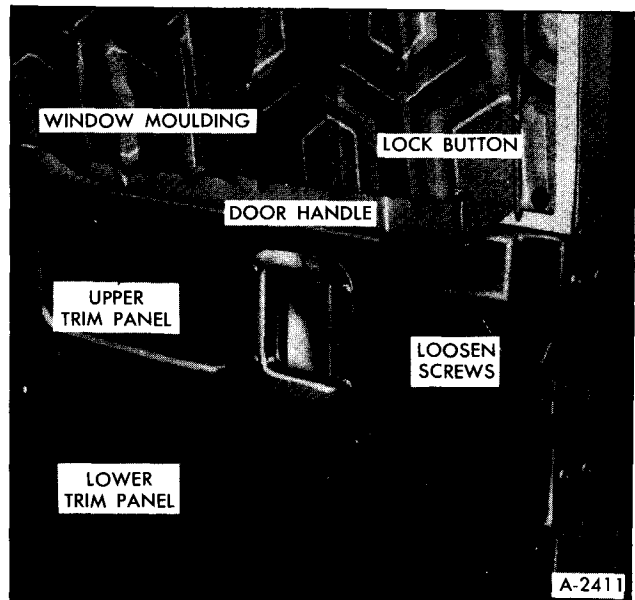

Figure 32—Removing Trim Panels
4. Remove upper trim panel and inner handle assembly by loosening screws shown in Figure 32 and removing all other screws. Use care when removing panel to avoid damaging door handle mechanism.